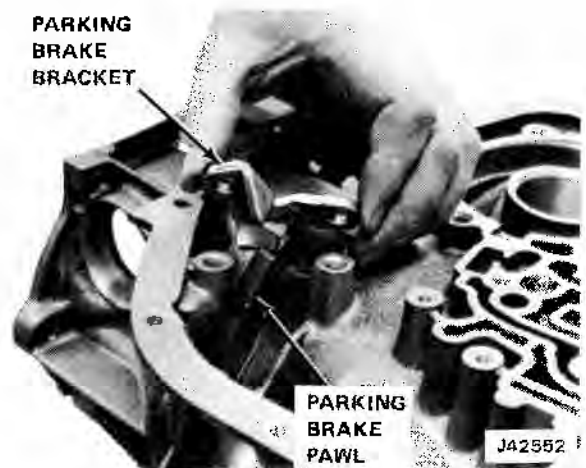

Fig. 7-122 Installing Parking Bracket
(4) Install parking pawl return spring, square end hooked on pawl, and other end of case.
(5) Install parking brake bracket guides over pawl, using two attaching bolts; tighten bolts to 15 to 20 foot-pounds (fig. 7-122).
(6) Install rear hand assembly in transmission case, so that two lugs index with two anchor pins. Check band to make sure band is seated on lugs.